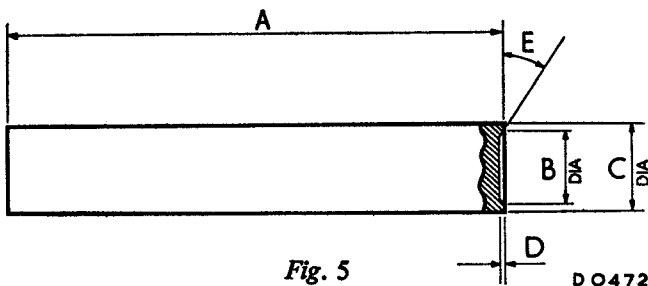

Fig. 5
- (4) Fit a new copper seating washer to the new relief valve and enter the valve into the pump body.
- (5) Using a tool made to the dimensions shown in Fig. 5, drive the valve into the pump until the copper seating washer is held firmly, but not compressed, between the valve and the pump.
- (6) Refit the pulley and refit the air pump.